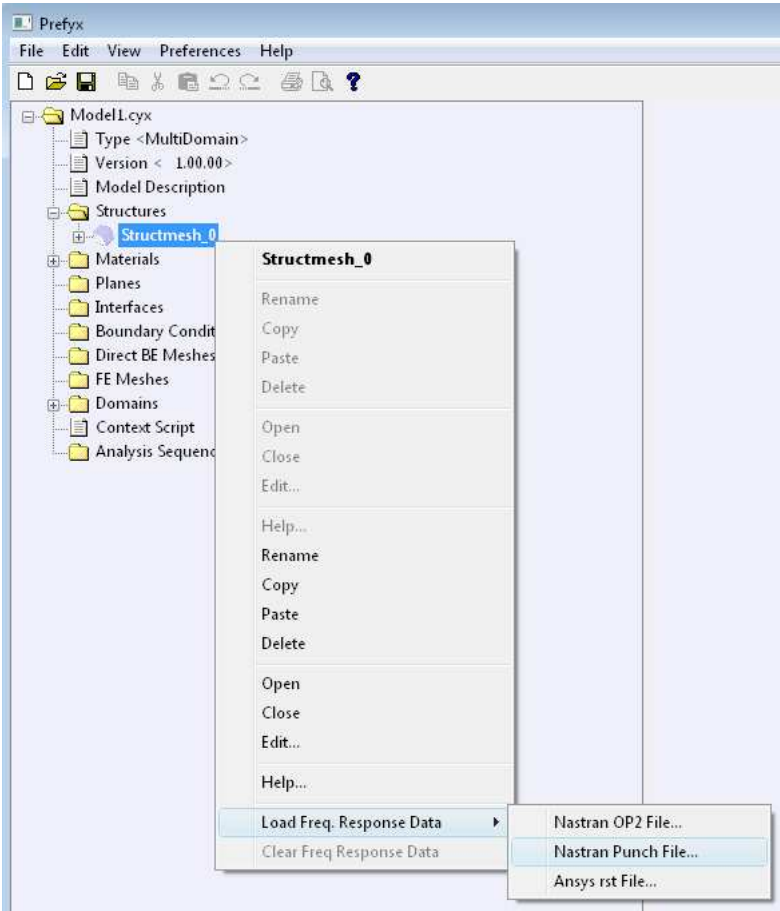

Figure 9.6: Load frequency response data into Coustyx.
- Right-click on **Structmesh_0** or *<Struct Mesh Name>* and select: **Load Freq Response Data** → **Nastran Punch File...** (as shown in Figure 9.6). The other valid data formats from which frequency response data can be loaded into Coustyx are **Nastran OP2 File** and **Ansys rst File**.